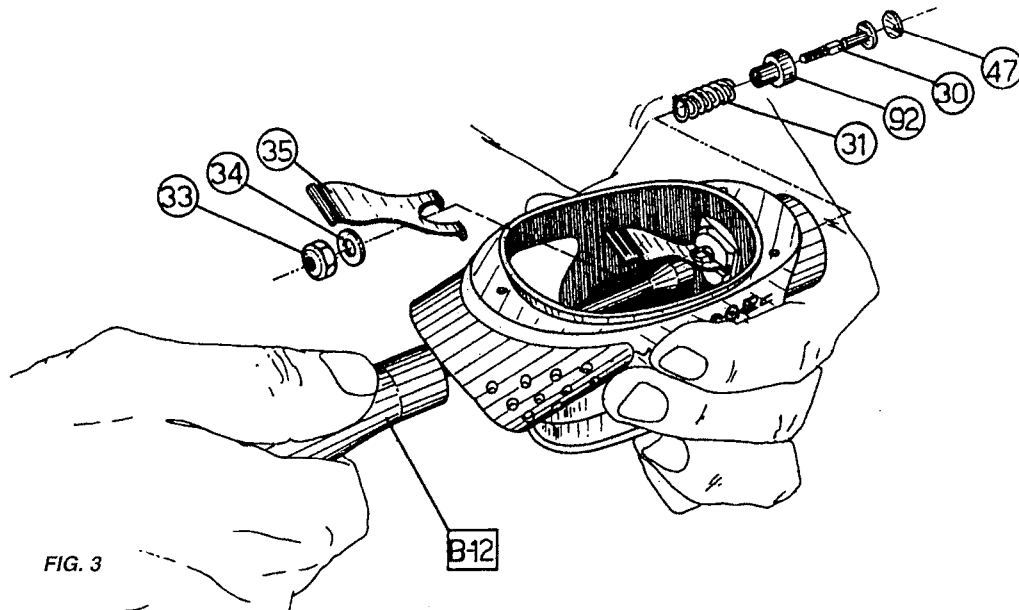

FIG. 3
14. Remove the exhaust valve (40) and the O-ring (143) from the exhaust valve support (144).
15. Using the special tool (B-12), unscrew the demand lever fixing nut (33) and remove the demand lever (35), the washer (34), the poppet (30) and the spring (31). (FIG. 3)